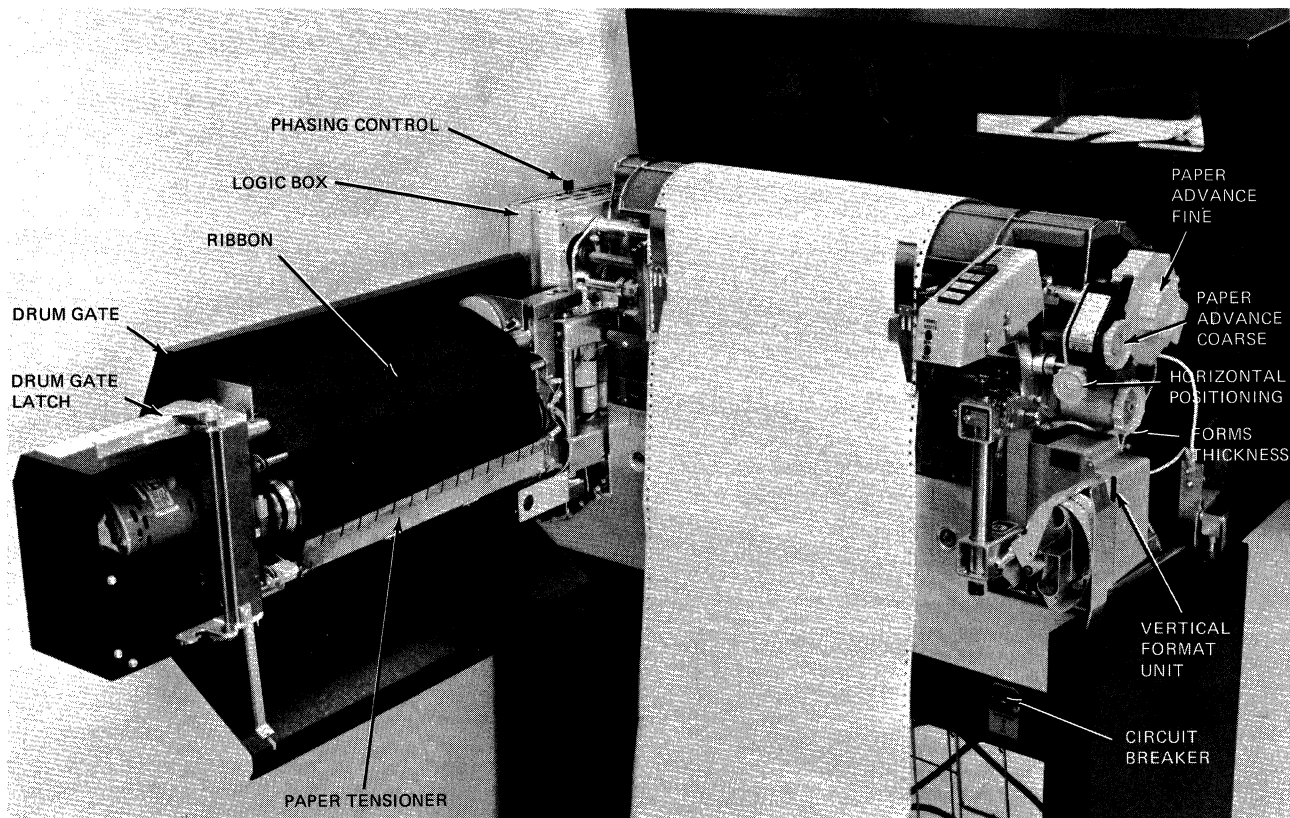
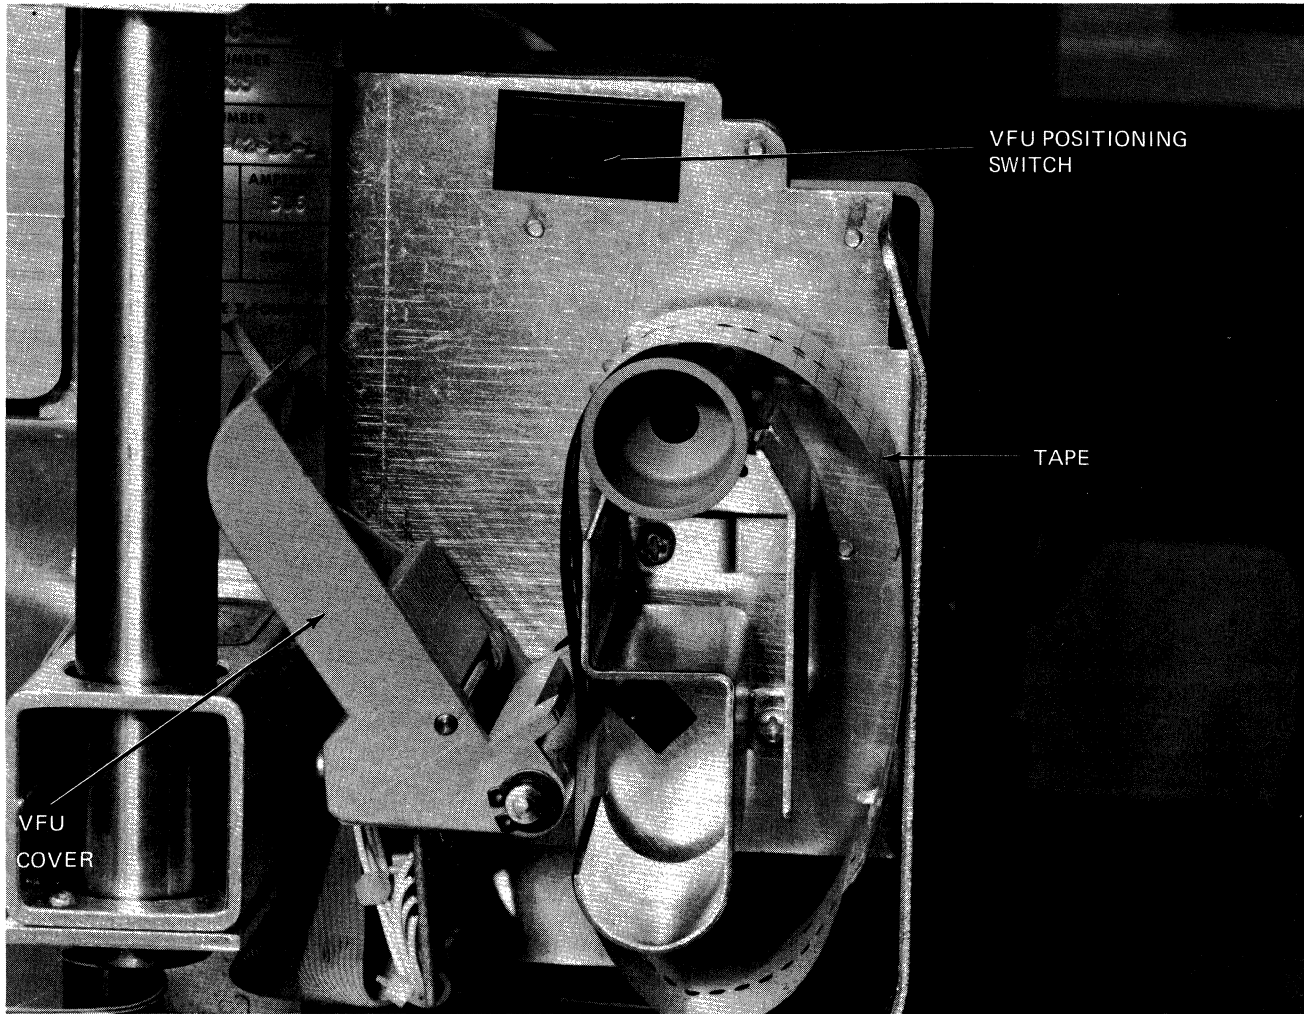

Figure 13-4. Printer Assembly
Figure 13-8. Printer VFU
switch is mounted on a logic card that is located on the left side of the printer on the inside door of the logic box (see Figure 13-4). This logic card is not handled by the operator; it is intended for Honeywell field service use only. The operator should check the card only to ensure that the switch is set in the up position (inadvertently setting to the down position will result in a printer fault condition).
Printers that contain Option PRF9101 can have paper spacing controlled by a 12-channel paper tape. The unit consists of a vertical format tape and tape reader that are located on the right-hand side of the printer under the printer cover (see Figure 13-4).
1. Set MAIN POWER switch to ON. The switch is located at the lower front of the printer (see Figure 13-4). Both the POWER ON and READY indicators on the operator control panel will light.
1. Raise the printer hood and pull the drum gate latch forward, swinging the drum gate to its fully opened position as shown in Figure 13-4.
- Press and hold the FORMS RESET button on the operator control panel while rotating the PAPER ADVANCE COARSE knob (see Figure 13-4) until perforation is lined up with the desired index.
- Use PAPER HORIZONTAL POSITIONING control (see Figure 13-4) to position paper horizontally for location of the first column of print. Use this control to move paper to the desired location on the horizontal position index. The position index is graduated to allow a first character indentation of up to 2 inches.
- Raise the printer hood and pull drum gate latch forward, swinging the drum gate to its fully opened position as shown in Figure 13-4.
The Vertical Format Unit (VFU) is located on the right-hand side of the printer under the machine cover (see Figure 13-4). The tape is mounted on the upper sprocket rollers as shown in Figure 13-8.